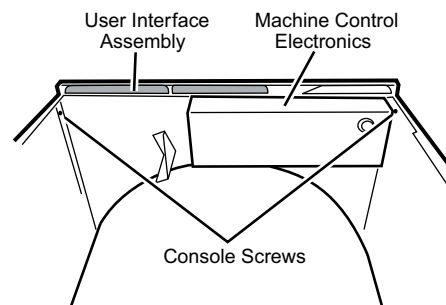

Figure 6. Locate the electronic assemblies.
There are two electronic assemblies; the user interface assembly, and the machine control electronics. See Figure 6.
2. After removing the top panel, remove the console screws located in the upper corners of the console. See Figure 6.